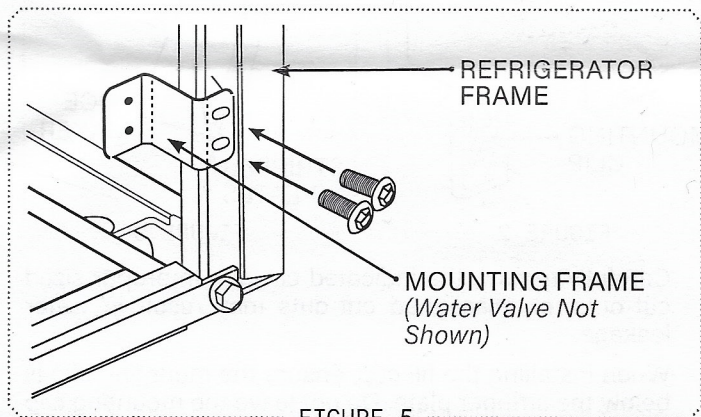

FIGURE 5
19. Located the pre-punched holes at the bottom right corner of the back panel of the refrigerator. Align the water valve bracket with the factory drilled holes, then use a Phillips head screwdriver to drive the two self-drilling screws through the bracket and into the cabinet. See Figure 5.